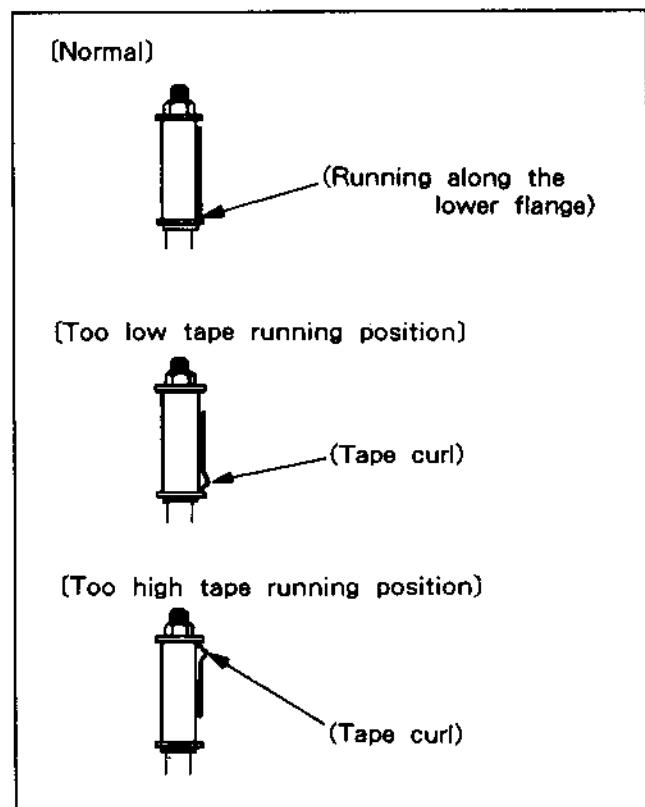

Fig. 5-4-6. Fixed Guide (T)
#### 5-4-5. TAPE PATH CHECK OF EXIT SIDE FIXED GUIDE (T) (See Fig. 5-4-6.)